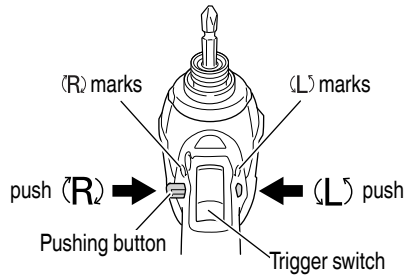

Fig. 10
The L-side of the pushing button is pushed to turn the bit counterclockwise (See Fig. 10). (The (L) and (R) marks are provided on the body.)